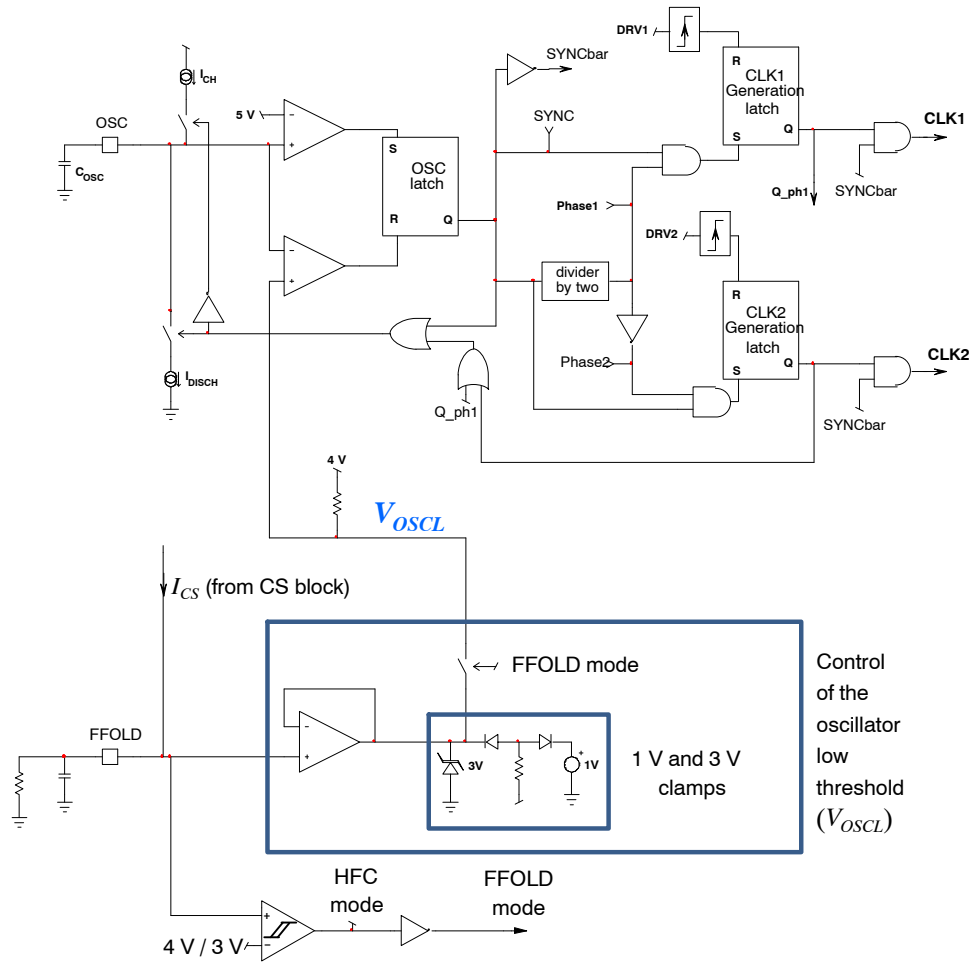
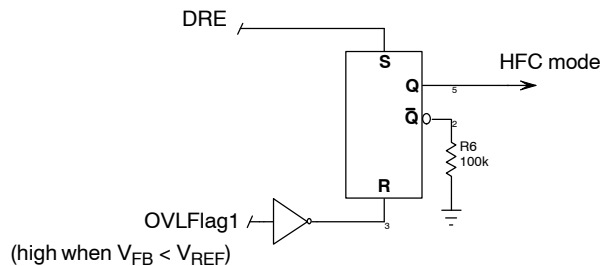
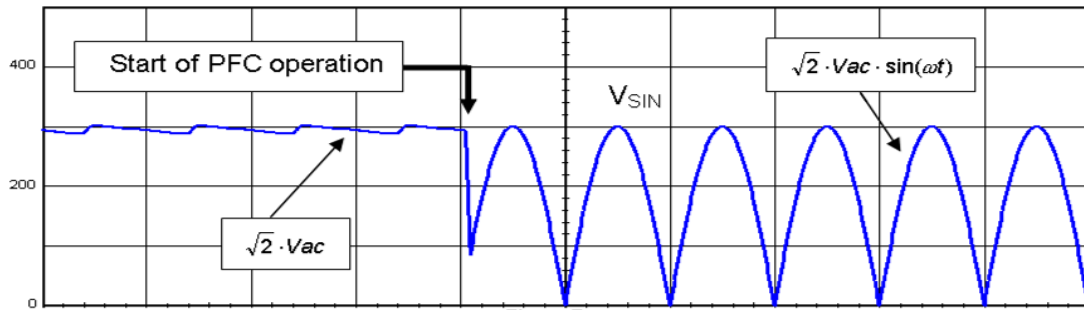

Figure 13. FFOLD Mode Management
Figure 19. Easing HFC-mode Recovery
Figure 22. Typical Input Voltage of a PFC Stage
As shown by Figure 13, a current source I_{CH} (140 μ A typically) charges the OSC pin capacitor until its voltage exceeds $V_{OSC(high)}$ (5 V typically). At that moment, the oscillator enters a discharge phase for which I_{DISCH} (105 μ A typ.) discharges the OSC pin capacitor. This sequence lasts until V_{OSC} goes below the oscillator low threshold V_{OSCL} and a new charging phase starts*. An internal signal (“ $SYNC$ ” of Figure 19) is high during the discharge phase. A divider by two uses the $SYNC$ information to manage the phases of the interleaved PFC: the first $SYNC$ pulse sets “phase 1”, the second one, “phase 2”, the third one phase 1 again... etc.
of operation, the PFC stage may run in DCM and may not be able to provide the full power. To solve this, the NCP1632 forces HFC operation whenever the DRE comparator trips* and remains in HFC mode until the output voltage recovers its regulation level (that is when $OVLFlag1$ of Figure 22 turns low). At that moment, the conduction mode is normally selected as a function of the FFOLD pin voltage. See Figure 19.
- ♦ Before operation, the PFC stage is off and the input bridge acts as a peak detector (refer to Figure 22). As a consequence, the input voltage is approximately flat and nearly equates the ac line